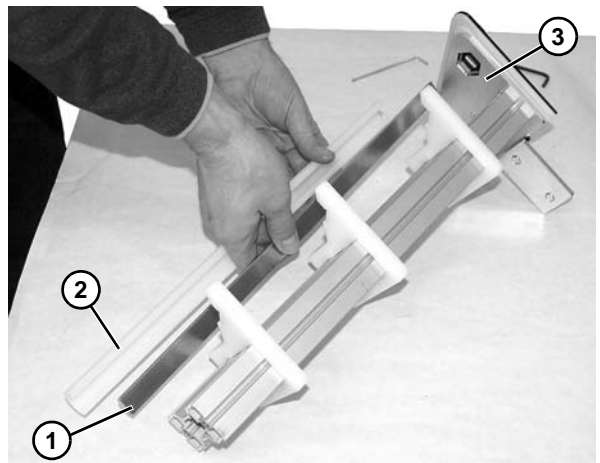

Figure 97
10. Remove nose bar half round shaft (**Figure 97, item 1**) and cover (**Figure 97, item 2**) from opposite side backing plate assembly (**Figure 97, item 3**).